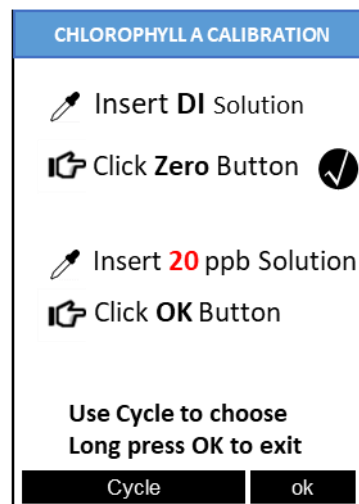

Figure 6
- 7) After a successful zero calibration a checkmark symbol will appear next to “Press Zero Button” to confirm success. The screen will also update to show the Slope steps, as in *Figure 6*. The Cycle command replaces Zero on the black bar and the possible chlorophyll-a calibration solution selection is displayed in red. The default is 20 ppb.